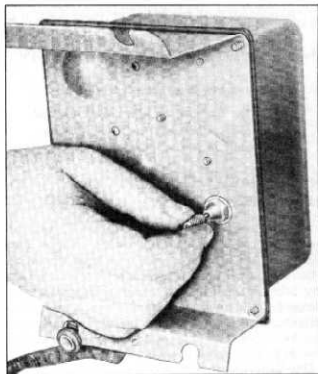

Fig. 73—Adjusting Hold on Bottom of Amplifier Unit
4. Turn the "HOLD" control on the bottom (outside) of the Amplifier Unit clockwise to end of adjustment (fig. 73).